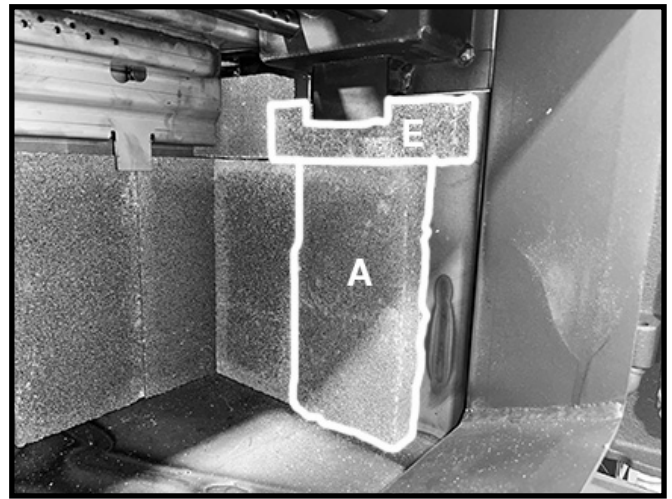

Figure 28: Second side wall firebricks in place.
4. Next, place an "E" firebrick up under the side brick retainer tab and stand another "A" brick beside the first one under the "E" firebrick (Figure 28).